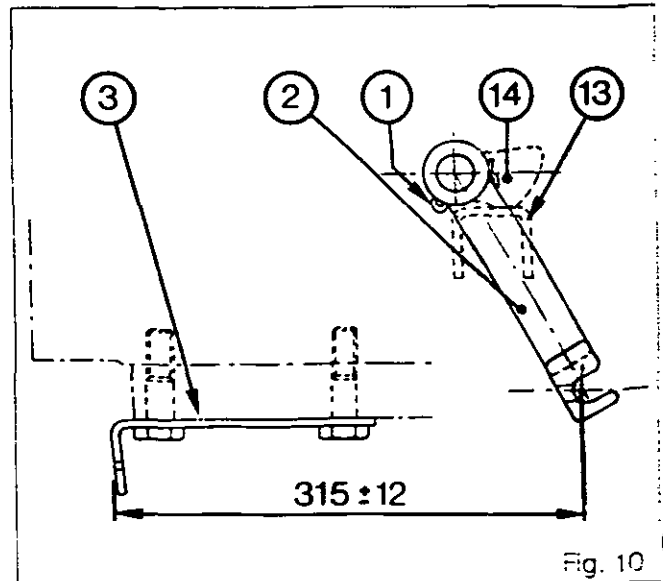

Fig. 10
55. Position the lever (2) (Fig. 10) of the cam (14) in contact with the lever (13) so as to obtain a distance of 315 mm  $\pm$  12 between the cable fastening axis and the support (3). Fit the cotter pin (1) (Fig. 10).